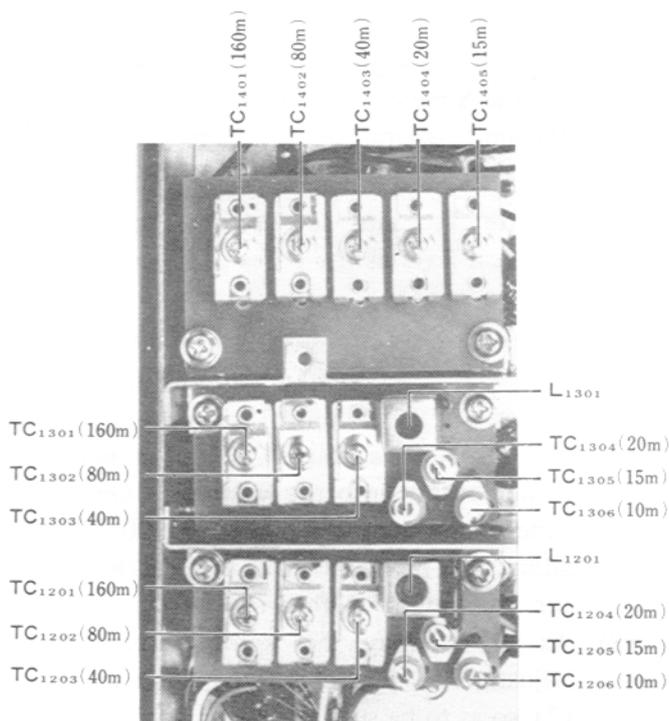

Figure 21
- (3) Close the PTT switch, and dip the PLATE control for a minimum IC reading on the transceiver meter (the LOAD control should be set to the nominal setting shown in the "operation" section of this manual). Now adjust TC_{1403} for maximum power output into the wattmeter.
- (4) Set the BAND switch to 10D, the PRESELECTOR control to 10 (on the scale of 1-10), and reduce the setting of the DRIVE CONTROL. Preset TC_{1206} to the $\frac{1}{2}$ position, and TC_{1306} to the $\frac{1}{3}$ position, as shown in Figure 21. Set the LOAD control to the correct position, and close the PTT switch. Dip the PLATE control for minimum IC reading on the transceiver meter. Now advance the DRIVE control to the point where maximum power output is obtained (do not go beyond the maximum PO point). Adjust the cores of T_2 and T_3 for maximum power output. Do not exceed the 10 second key down limitation during this adjustment.
- (5) On receive, set the RF GAIN control fully clockwise, and turn the marker on. Tune in the marker signal at 30.000 MHz, and adjust T_2 and T_3 slightly for maximum deflection on the S-meter. Now recheck the peaking on transmit; several repetitions may be necessary to secure the proper ratio.
- (6) Locate T_1 , and set its core to the same physical level as the cores of T_2 and T_3 were set in step (5).
- (7) Set the BAND switch to 10A, the VFO dial to 000, and tune up the transmitter. Peak the PRESELECTOR control for maximum power output. Now adjust TC_{1306} for maximum power output into the wattmeter. On receive, tune to the marker signal at 28.000 MHz, and adjust TC_{1206} (and TC_{101} on the RF UNIT) for maximum deflection of the S-meter.
- (8) As there may be some interaction of adjustments, please repeat steps (3) through (7), so as to be sure of proper tracking.